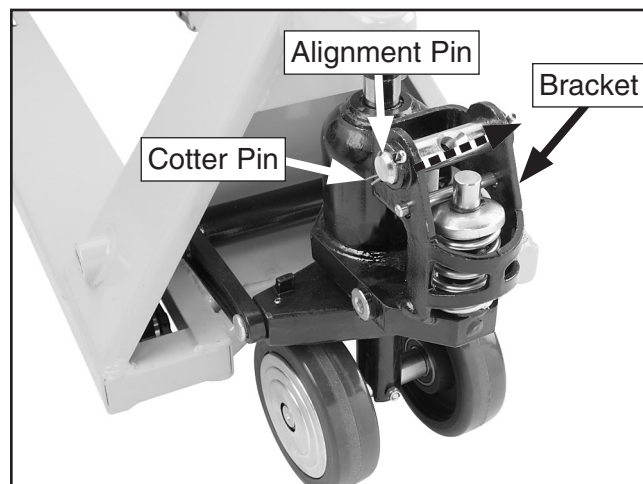

Figure 2. Cotter pin location.
1. Remove the cotter pin shown in **Figure 2**, then slide the alignment pin all the way out of the right side of the bracket.